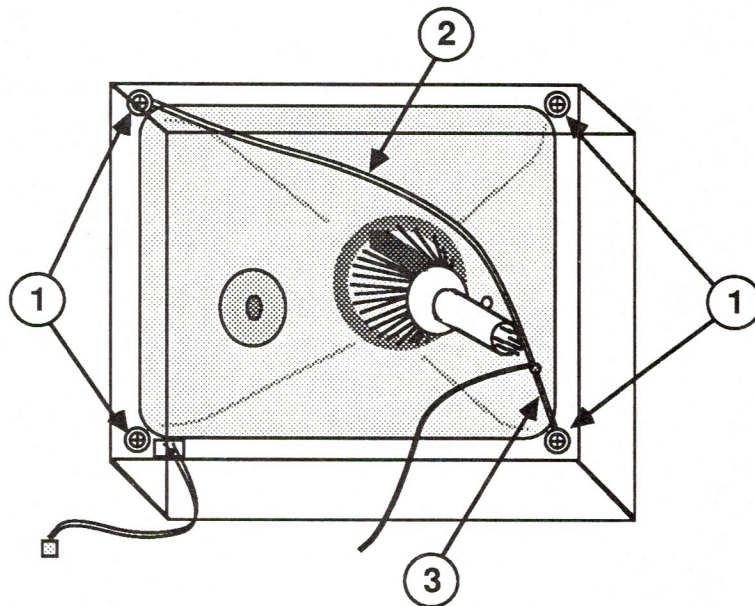

FIGURE 16
7. Remove the four mounting screws from the corners of the CRT (Figure 16, #1).
9. Remove the grounding strap (Figure 16, #2) and the spring (Figure 16, #3). Save them to use on your replacement CRT.
2. Loop the grounding strap (Figure 16, #2) over the top left screw bracket, and attach the spring (Figure 16, #3) to the bottom right screw bracket on the CRT.
4. Replace the four mounting screws in the corners (Figure 16, #1). The washers go on the corners that have the attached grounding strap and spring.